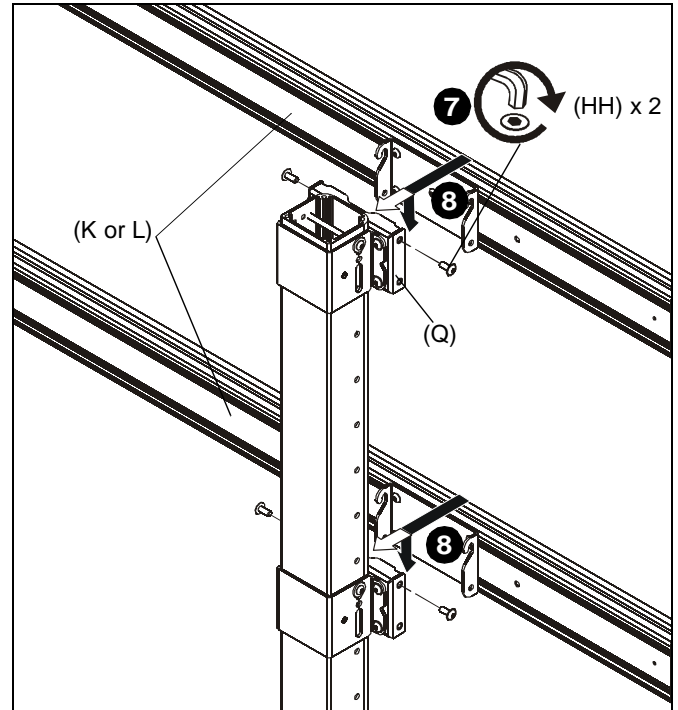
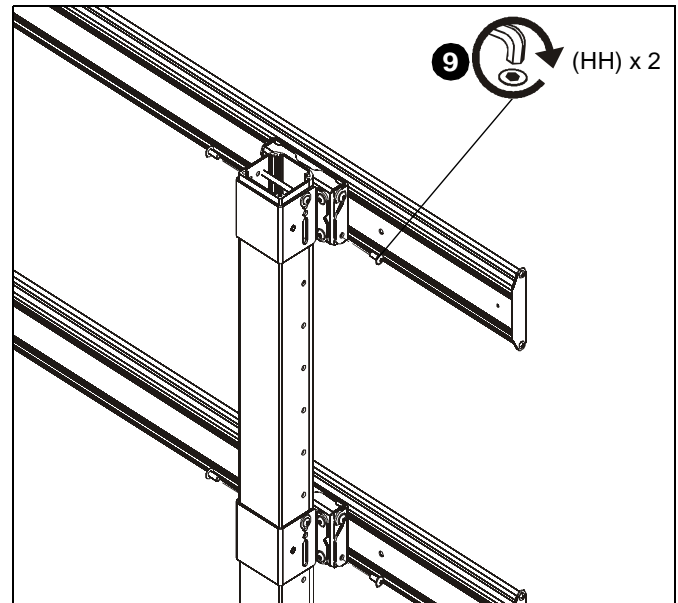

Figure 12
Figure 13
- Install two 5/16-18 x 3/4" button head flange screws (HH) into the top holes on each quick connect base (Q). (See Figure 12)
- Hang rails (K or L) into screws installed in previous step to quick connect bases (Q). (See Figure 12)
**IMPORTANT ! :** If installing the triple display rail (L), install rail to left and center columns so that add-on rail can be installed to right column. See Add-On Rail Installation section for details.
- Install two 5/16-18 x 3/4" button head flange screws (HH) into the lower holes on each quick connect base (Q) to secure rails to quick connect bases. (See Figure 13)
- Tighten all 5/16-18 x 3/4" button head flange screws (HH).